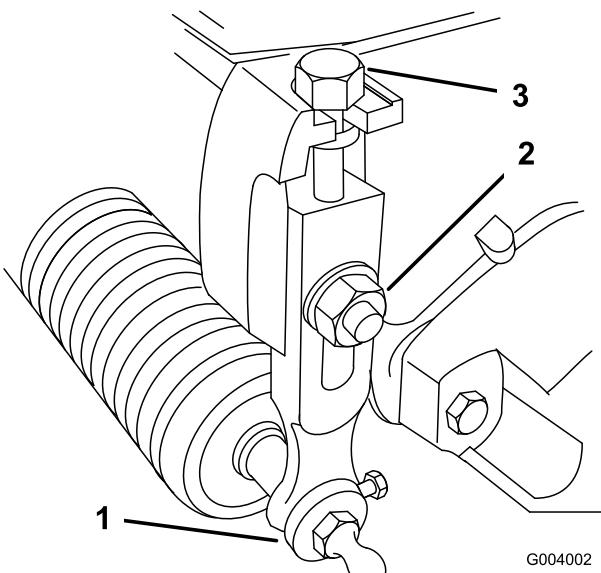

Figure 14
- 1. Loosen the locknuts securing the height-of-cut arms to the cutting unit side plates (Figure 14).